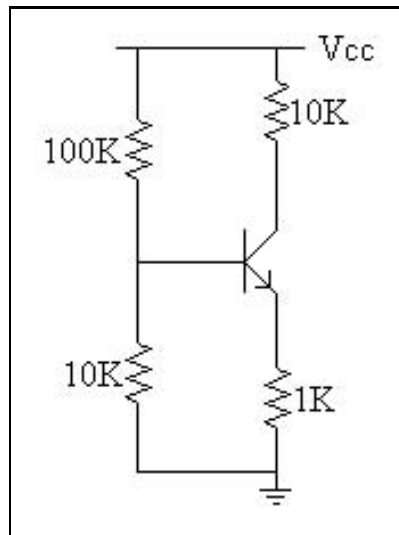
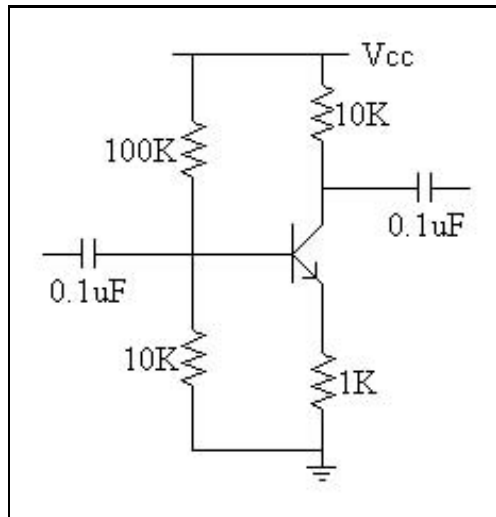
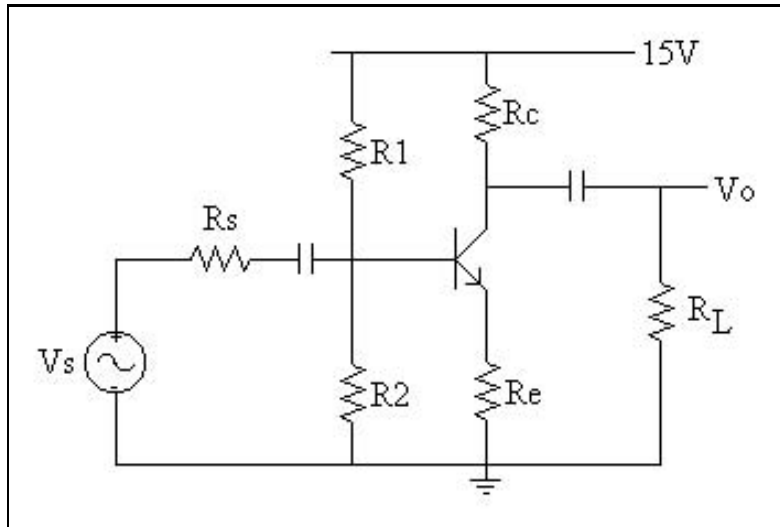

Figure 2.6: CE Amp for DC Bias Experiment
Figure 2.7: CE Circuit for small signal gain
Figure 2.10: CE amp driven by nonideal source of resistance R_S and driving a load R_L
1. Set up the circuit in Fig. 2.6 with $V_{CC} = 15V$.
1. To the circuit you already built in Fig. 2.6, add capacitors to the input and output as shown in Fig. 2.7.
2. Apply an input signal to the circuit as shown in Fig. 2.7. For v_{in} use a 0.1V, 100KHz signal from your wavetek. Determine the voltage gain. Sketch v_{out} versus v_{in} .
The input resistance is the resistance seen by the current source or voltage source which drives the circuit. For example, returning to the circuit in Fig. 2.7, the impedance seen by sinusoidal input signals looking into the capacitor is:
Output resistance is an indication of a source's ability to drive a load impedance. An ideal voltage source has zero output resistance, and an ideal current source has infinite output resistance. To find the output resistance of the CE amplifier, we ground the input and drive the output. From the circuit in Fig. 2.7, the output resistance is then $R_C || R_{TC}$, where R_{TC} is the resistance looking into the collector. Since, at this time, we are considering the collector to be modeled as an ideal current source, the output resistance of the CE amp is then simply R_C .
1. Construct the circuit in Fig. 2.10. Notice that it is really just the CE amp of Fig. 2.6, driving a load of $R_L = 1K$, and being driven by a voltage source with source resistance $R_S = 10k$.